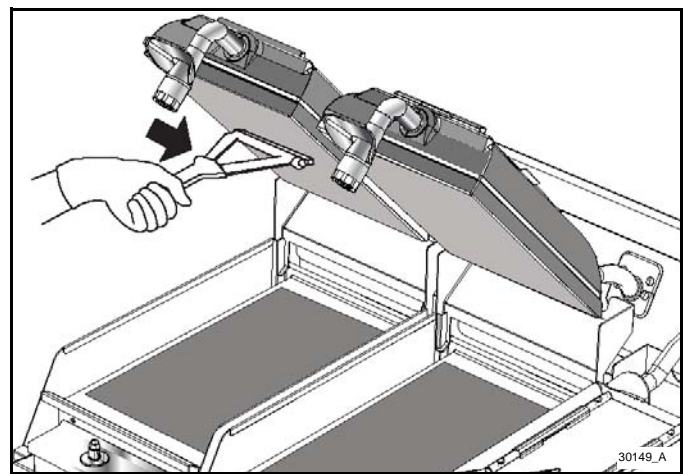

Figure-87
2. Squeegee the upper release sheet from top to bottom. See Figure-87.